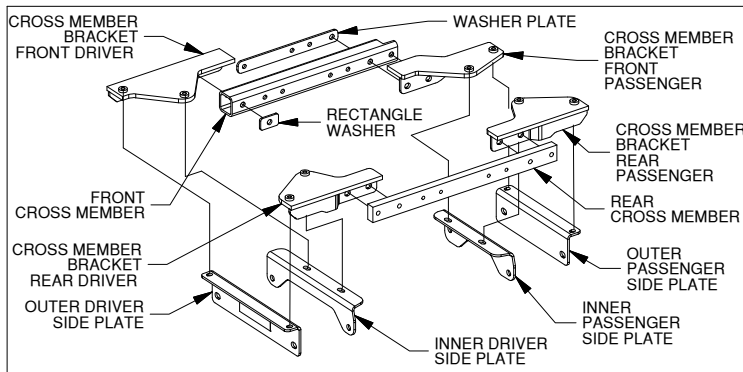
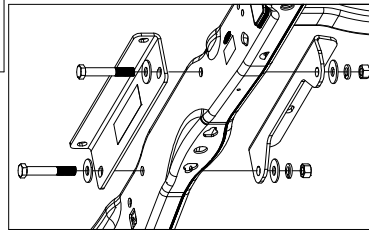

Figure B1: Side plates and Mounting Kit Exploded View
Figure B3: Driver Side Side plates
3. **Install side plates.** Locate the outer and if needed the inner side plates, see Figure B1. Install the side plates as shown in Figures B3 & B4, so that there is a side plate on the inside and outside of each frame member. Attach the side plates to the frame using 5/8" x 4" bolts, two flat washers, lock washer, and nut, as shown in Figure B3. Fasten hardware until the side plates are flush against frame.
5. **Install cross member brackets.** Locate the four cross member brackets as shown in Figure B1, and the eight 1/2" bolts with an added thread locker. Attach these brackets to the inner and outer side plates using these bolts. If the bolts with thread locker are cap screws without a flanged head, also add a flat and lock washer, see Figure B5.
1. **Install front cross member.** Locate the front cross member shown in Figure B1. Using the washer plate, 5/8" X 4" bolt, 5/8" flat washer, and a 5/8" x 1-1/2" bolt, attach the front cross member to the passenger side front cross member bracket, see Figure C1. Next, attach the cross member to the driver side cross member bracket with 5/8" x 4" bolt, rectangle washer, lock washer and nut, as shown in Figure C1.